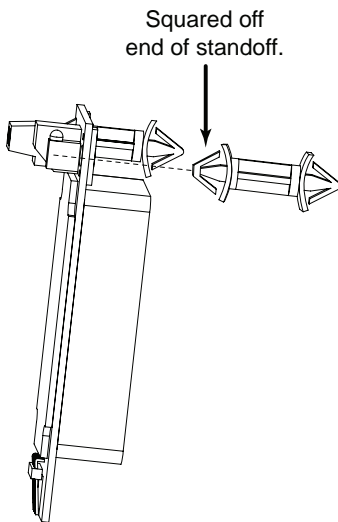

Figure 27. Vehicle Dectector Standoff
2. Insert the locking end of the two white plastic standoffs into the mounting holes on the detector. See Figure 27.